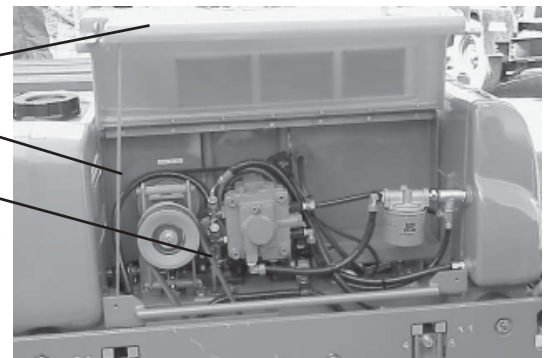

Figure 8. Checking V-Belt Tension
1. Remove the 2 bolts, one on each side of the center cover, with a #13 socket wrench. Open the center cover of the machine and support it with the strut by inserting its end to the hole in the base (Figure 8).